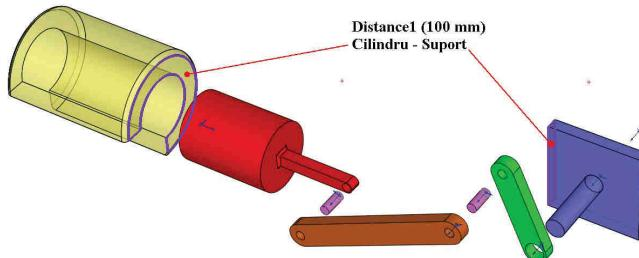

Fig. 17.22
- **Distance1** (100 mm), fig. 17.22;